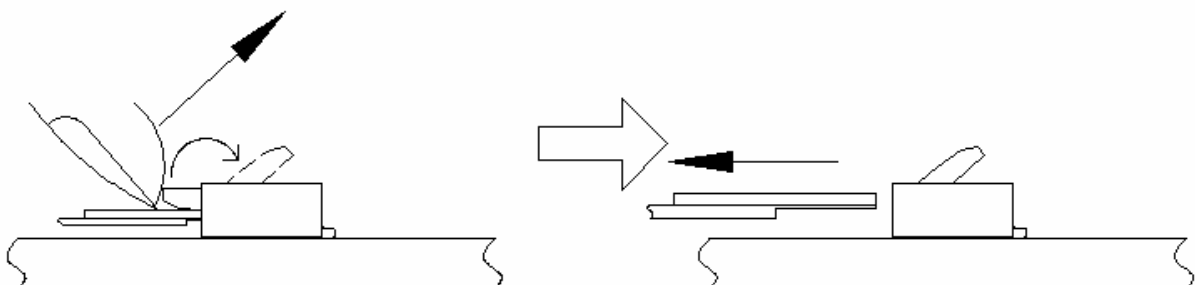

Figure 5.
- 1) Lift up the actuator(Lock). Carefully withdraw the FPC/FFC. (see figure 5).